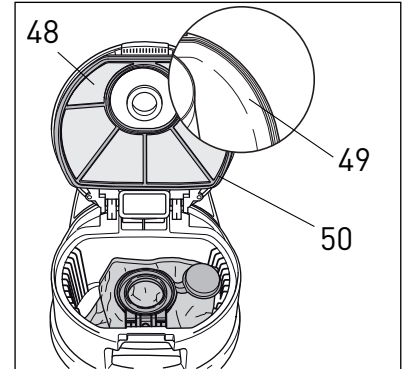
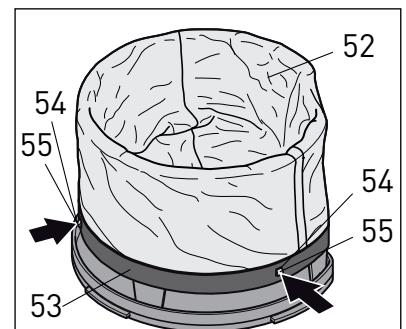
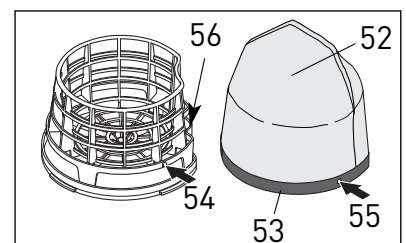
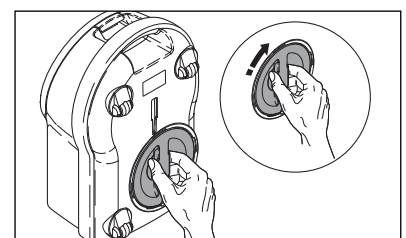

Figure 27
Figure 29
Figure 30
Figure 31
The motor filter (48) needs to be changed when it becomes extremely dirty or clogged. To remove the motor filter, switch off the power and unplug the vacuum. Lift the cover release catch (#15, figure 26) and raise the filter bag cover (18). Pull the filter (48) out by grasping the rubber rim (#50, figure 27) of the filter and pulling it out of the groove (#49, inset, figure 29) that holds it. Fit the new filter into the groove and push the rubber rim snugly into the groove **all the way around the filter edge**. Do not leave any loose edges. Close the filter bag cover making sure that the cover release catch snaps back into place.
After 10 to 20 bags have been used, change the micro filter (52). To remove the micro-filter, switch off the power and unplug the vacuum. Press the release button (51) located on the filter holder (27) as shown in figure 28. While holding the button in, rotate the holder counter-clockwise and pull it out. Remove the filter (52) from the filter holder (27) by pulling the rubber strip (#53, figure 29) away from the notches (54) that hold it onto the base of the filter holder then pulling the filter off. Fit the new filter down over the holder, lining up the notches (54) on the holder with the holes (55) in the red rubber strip. The two tabs located on the indented portion of the red filter rim hook onto the holder rim (see position #56, figure 30). Tuck the peak of the filter down as shown in figure 29. Insert the assembly back into the machine and turn the holder cover clockwise (figure 31). It is not necessary to press the release button to close the filter holder.